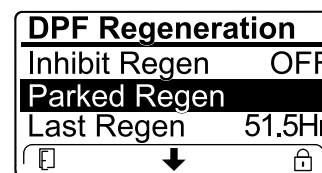

Figure 48
- If the engine computer requests a recovery regeneration or is processing a recovery regeneration and you scroll down to the PARKED REGEN option, parked regeneration locks and the lock icon (Figure 48) appears in the lower right corner of the InfoCenter.